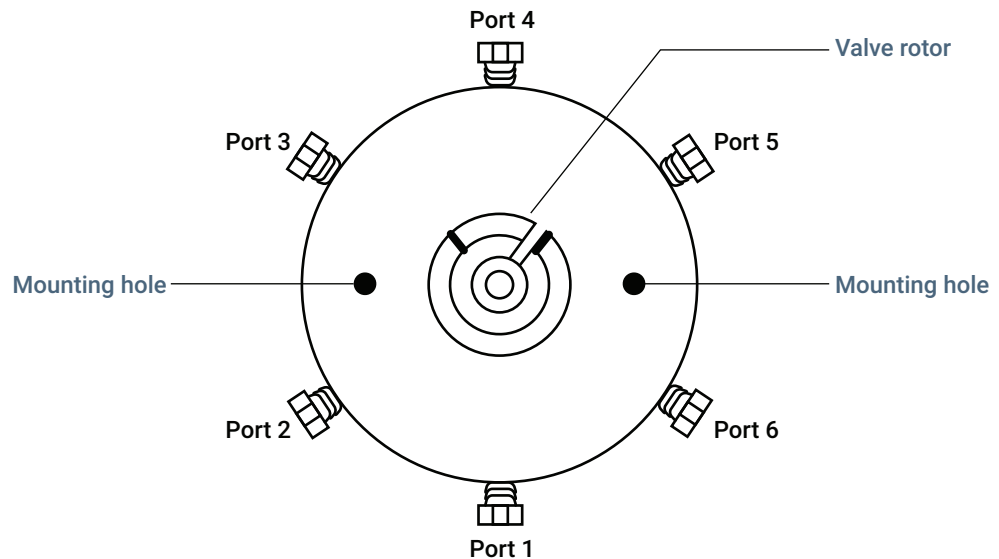

Figure 24. The 6 port valve and valve rotor
- 9 Using a small pencil magnet, set the new rotor in place on the 6 port valve with the rotor ID letter facing port 4 (**Figure 24**).